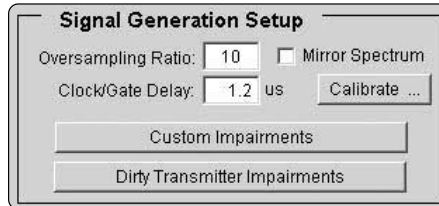

Figure 47. Signal Generation Setup menu with clock/gate delay setting returned from the calibration utility.
8. Place the marker at the desired clock/gate delay setting using the arrow buttons and select the set **Delay** button. Then select the **OK** button. The clock/gate delay setting associated with the current marker location is returned to the clock/gate delay field, Figure 47, in the Signal Generation Setup menu and the calibration utility is closed.